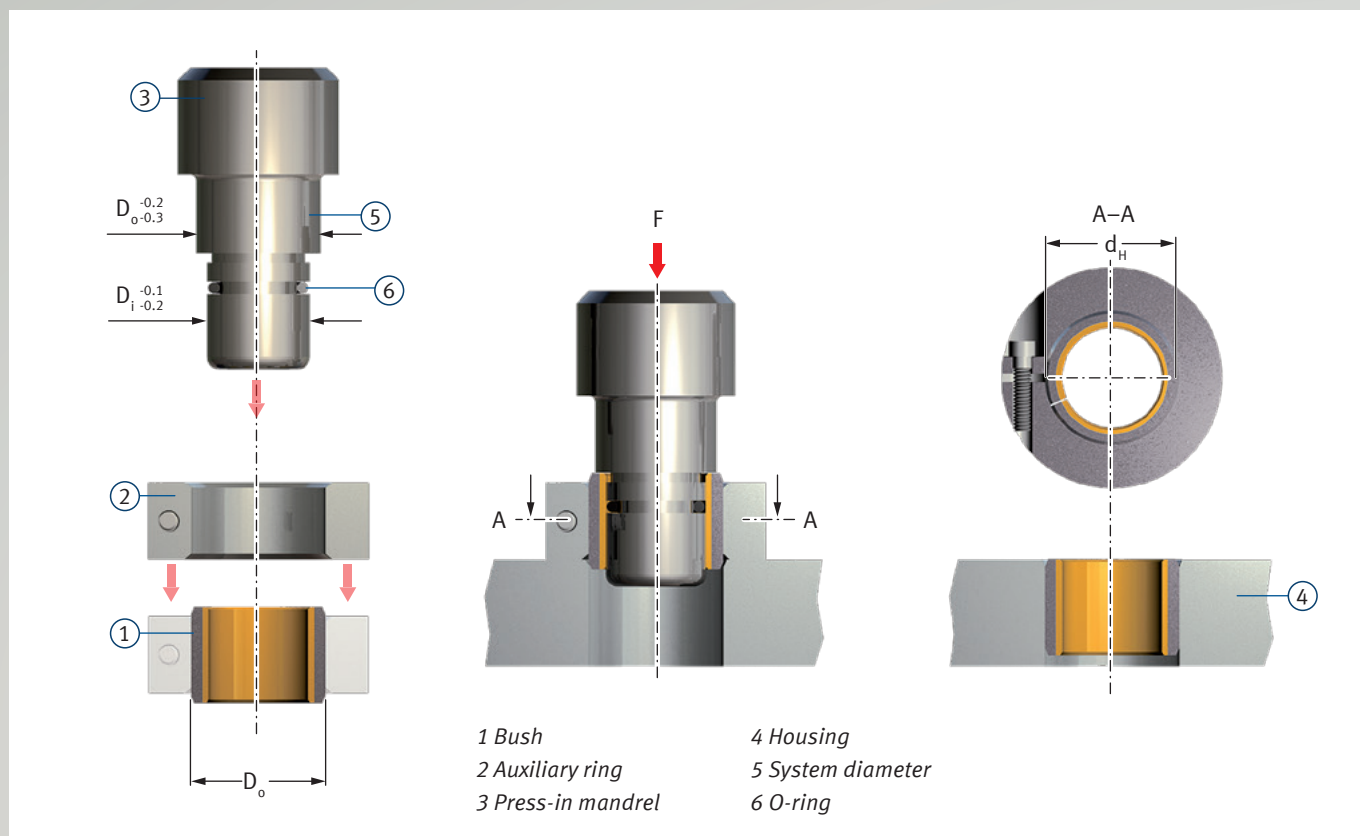

Fig. 53: Press-fitting bushes,  $D_o \geq 55$  mm, with auxiliary ring
- Press-fitting with mandrel and auxiliary ring, as per Fig. 53.
Fig. 53 shows calibration using a mandrel. Tab. 36 contains standard values for the diameter of the calibrating mandrel  $d_K$ . Precise values can only be ascertained through tests.